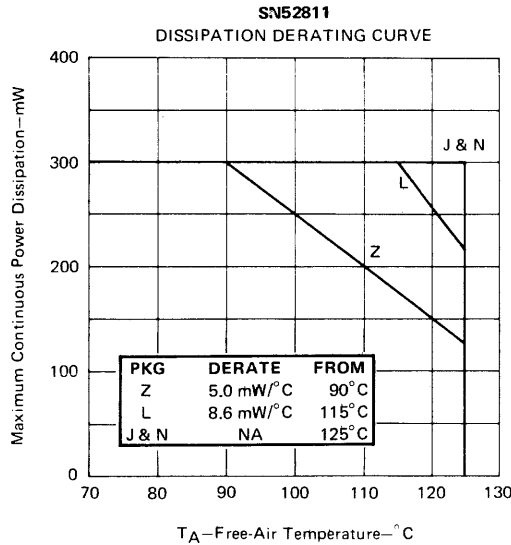

FIGURE 10
3. For operation of the SN52811 above  $70^{\circ}\text{C}$  free-air temperature, refer to Dissipating Derating Curve, Figure 10.